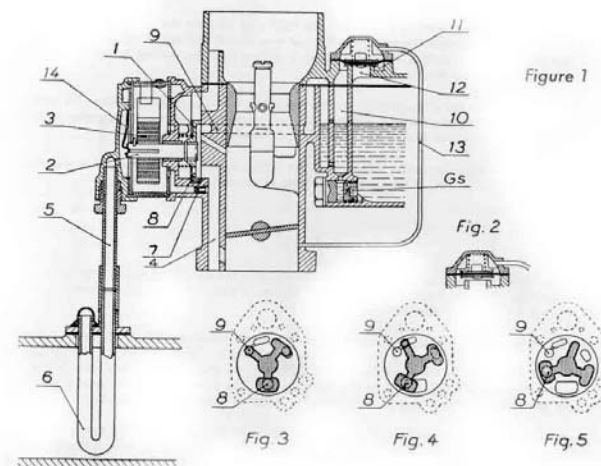

Figure 1
When the engine is cold, the ports are in the positions of figures 1 and 3, that is to say, the communication between (11) and (12) is closed and the disc valve ports are in direct communication with the equivalent ports provided on the face on which the disc valve rests.